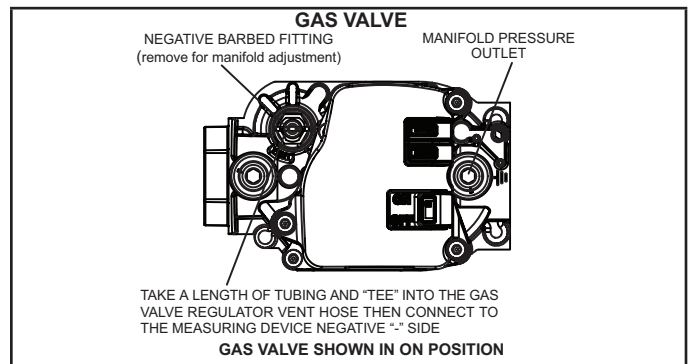

FIGURE 1
- 2 - Remove the heating compartment access panel. Turn the automatic gas valve switch to the OFF position. See figure 1.
- 6 - Move gas valve switch to **OFF**. See figure 1.
- 7 - Wait five (5) minutes for any gas to clear out. If you then smell gas, **STOP!** Immediately call your gas supplier from a neighbor's phone. Follow the gas supplier's instructions. If you do not smell gas, go to the next step.
- 8 - Move gas valve switch to **ON**. See figure 1.
When testing supply gas pressure, use the 1/8" N.P.T. supply line tap located on the gas valve to facilitate test gauge connection. See figure 1. Check gas line pressure with unit firing at maximum rate. Low pressure may result in erratic operation or underfire. High pressure can result in permanent damage to gas valve or overfire.
When testing manifold gas pressure, use the 1/8" N.P.T. plugged tap (manifold pressure outlet) located on the gas valve to facilitate test measuring device. See figure 1.
- 7 - Remove the negative barbed fitting as shown in figure 1 and using a screw driver make adjustment to increase or decrease manifold pressure.